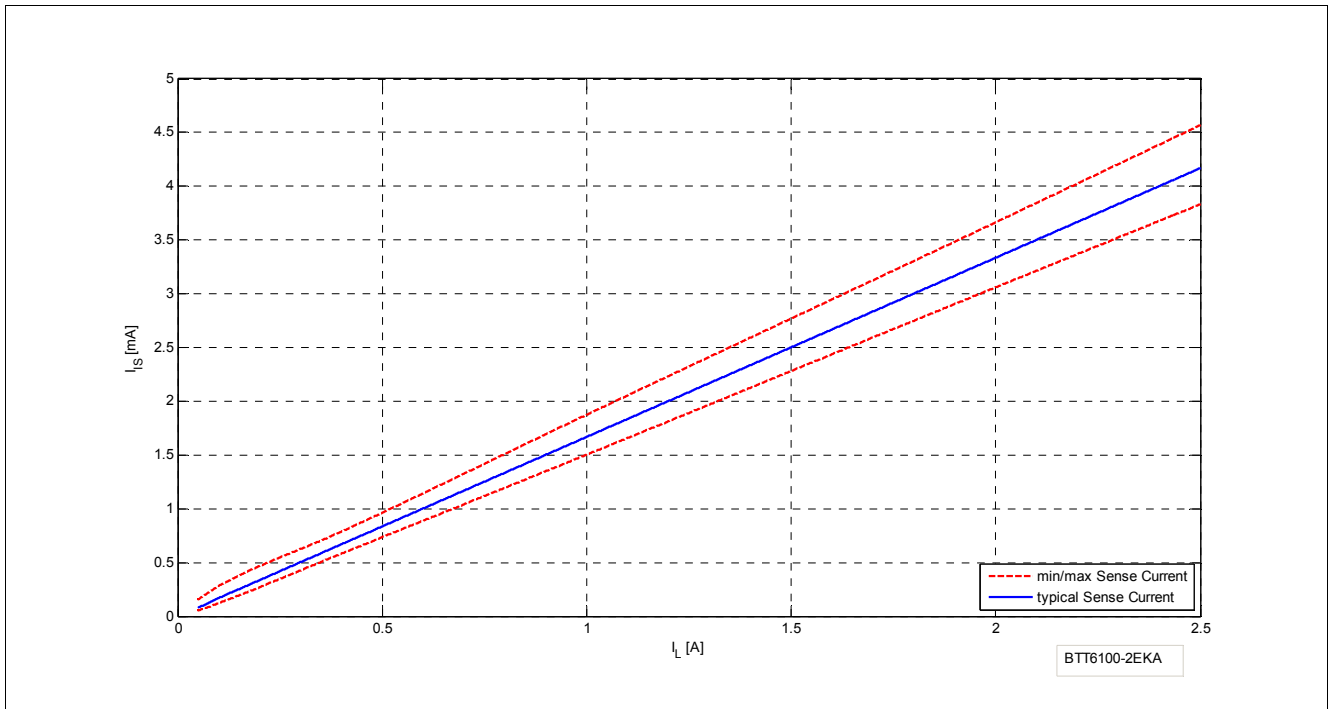
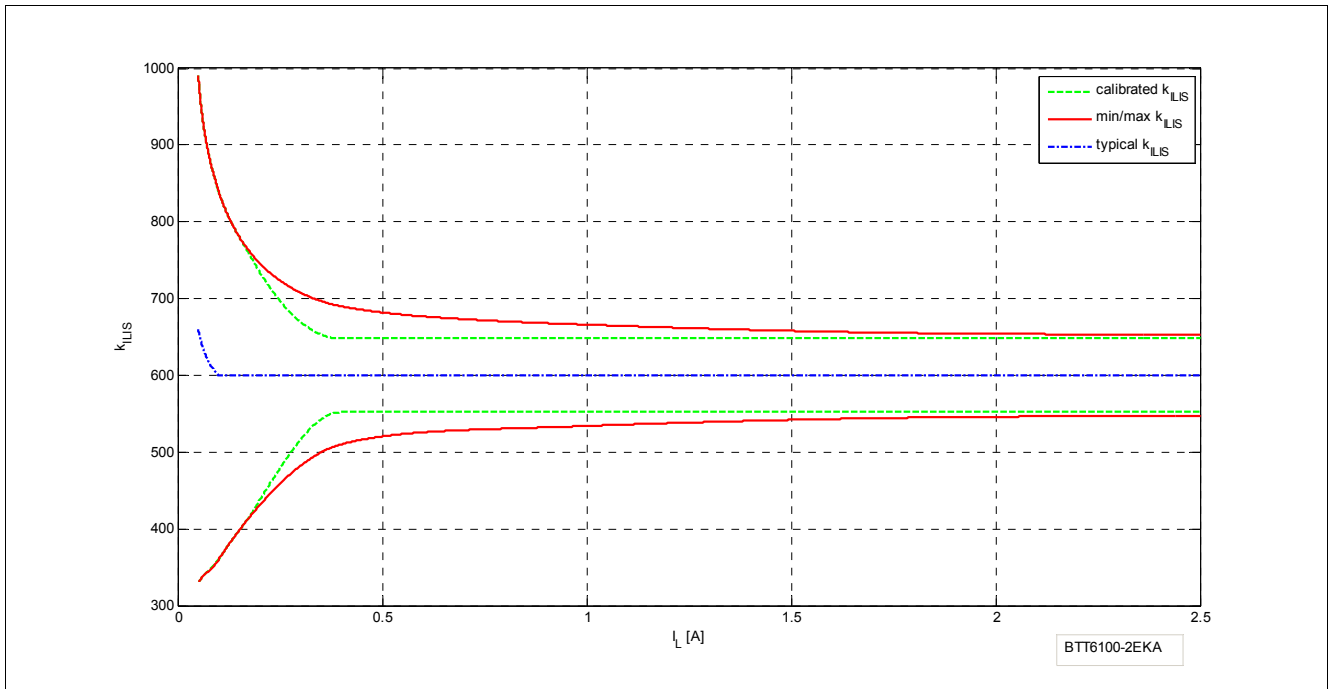

Figure 20 Current Sense for Nominal Load
Figure 21 Improved Current Sense Accuracy with One Calibration Point at 0.4A
**Figure 20** and **Figure 21** show the current sense as a function of the load current in the power DMOS. Usually, a pull-down resistor  $R_{IS}$  is connected to the current sense IS pin. This resistor has to be higher than 560  $\Omega$  to limit the power losses in the sense circuitry. A typical value is 1.2 k $\Omega$ . The blue curve represents the ideal sense current, assuming an ideal  $k_{ILIS}$  factor value. The red curves shows the accuracy the device provides across full temperature range at a defined current.
In some applications a better accuracy is required at smaller currents. To achieve this accuracy requirement, a calibration on the application is possible. To avoid multiple calibration points at different load and temperature conditions, the BTT6100-2EKA allows limited derating of the  $k_{ILIS}$  value, at a given point ( $I_{L3}$ ;  $T_J = +25\text{ °C}$ ). This derating is described by the parameter  $\Delta k_{ILIS}$ . Figure 21 shows the behavior of the sense current, assuming one calibration point at nominal load at +25 °C.